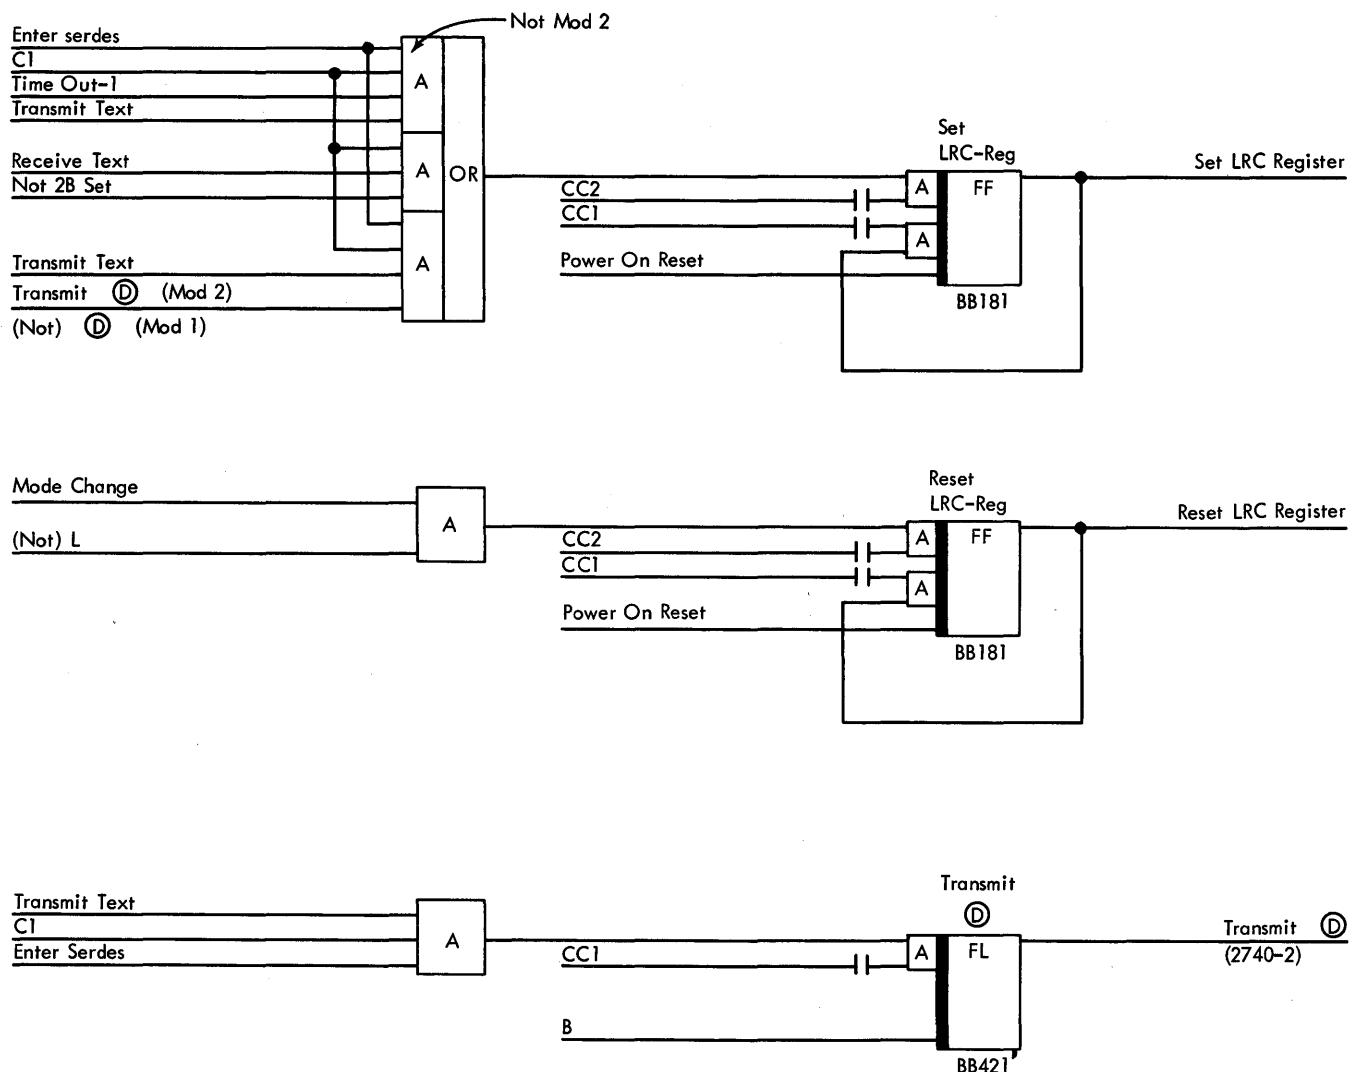

Figure 4-2. LRC Register Control
Control of the LRC-register is shown in Figure 4-2. All characters sent or received while the terminal is in a "text" mode are entered into the LRC-register. In transmit-text mode, when 'enter serdes,' 'C1,' and 'time-out 1' are up, the 'set LRC' trigger turns on. 'Set LRC' gates the character from the 1B-register to the LRC-register. The 'set LRC' trigger then gates itself off. Another AND, conditioned by 'transmit text,' 'enter serdes,' 'C1,' and 'not (D),' also turns on the 'set LRC' trigger. 'Not (D)' prevents the (D) character from entering the LRC-register. For the model 2 the 'not (D)' line is replaced by 'transmit (D).' The 'transmit (D)' trigger does not turn on until after the first character ((D)) is transmitted.